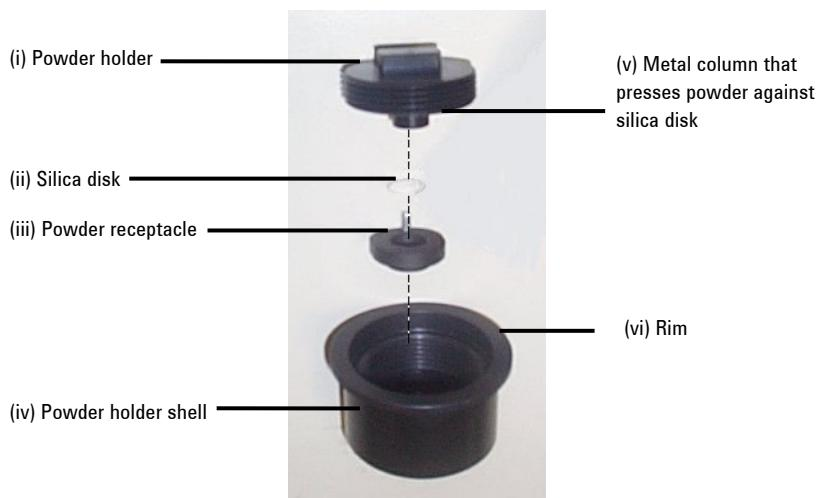

Figure 5. Exploded view of the powder holder. The sample sits between the silica disk (ii) and the column of the lid (v).
- 3 Position the powder receptacle (see Figure 5 (iii)) with the small silver rod pointing upwards.
- 4 Using gloves or lens tissue, carefully place a silica disk (see Figure 5 (ii)) into the powder holder receptacle. Beware of contaminating the disk with fingerprints.
- 6 Place the powder receptacle into the larger powder holder ‘shell’ (see Figure 5 (iv)). **To do this:**
- 7 Ensuring that the protruding black metal column (see Figure 5 (v)) is on the inside, (in order to securely press the sample up against the silica disk), screw the lid (see Figure 5 (i)) of the powder holder onto the shell.
- 8 Take the assembled powder holder and slide the rim (see Figure 5 (vi)) into the semi-circle groove on the accessory slide face created in step 2.